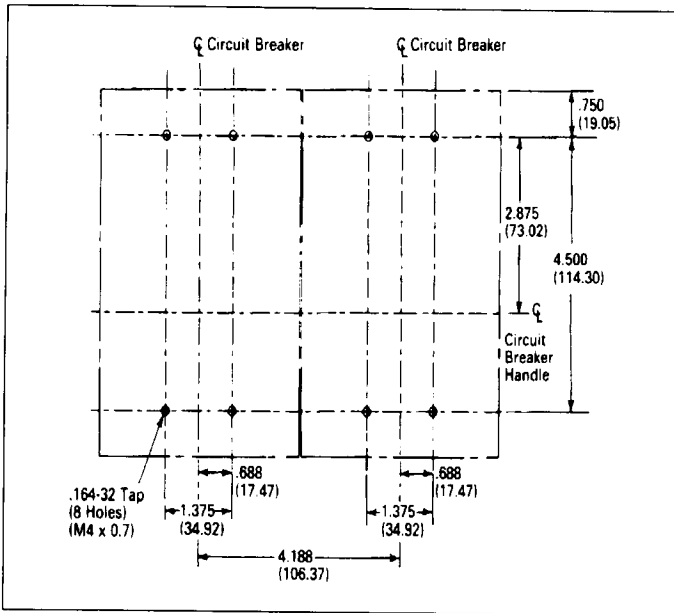

Fig. 2-1. F-Frame Circuit Breaker Mounting Bolt Drilling Plan
- 2-1. Refer to drilling plans for F-, J-, or K-frame circuit breakers (Fig. 2-1, 2-2, or 2-3); drill and tap circuit breaker mounting panel.